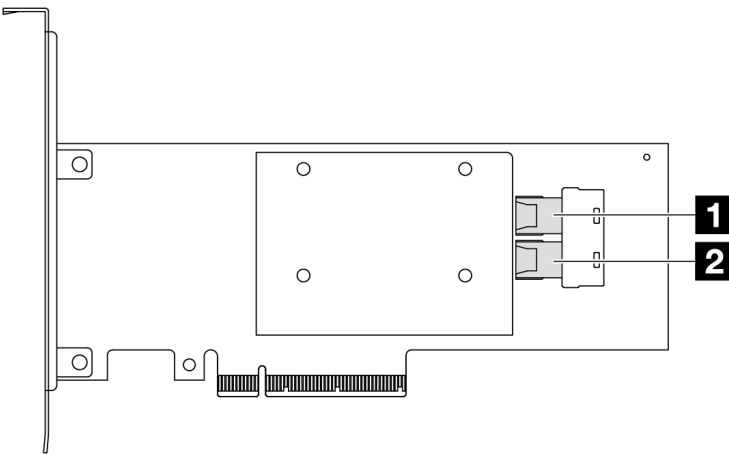

Figure 283. A Gen 3 8i SFF RAID/HBA adapter (two port connectors)
- Figure 283 “A Gen 3 8i SFF HBA adapter (two port connectors)” on page 315